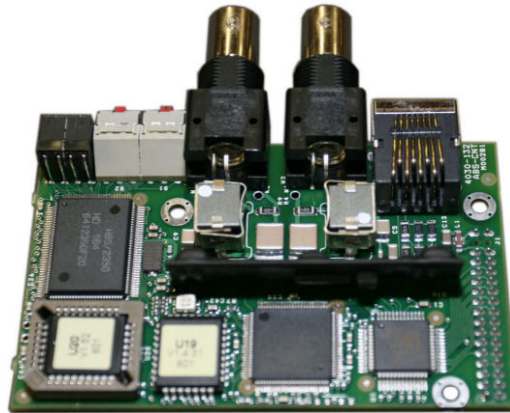
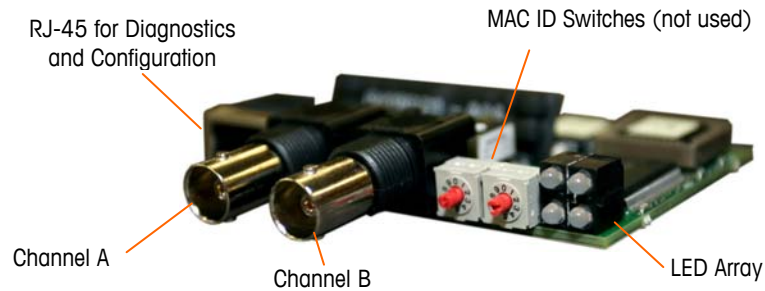
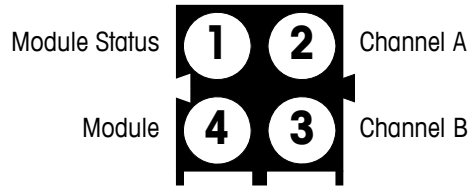
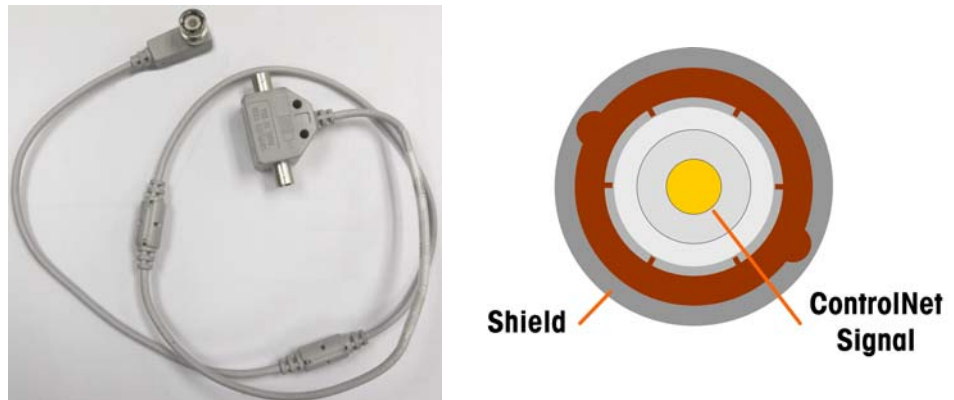

Figure A-81: ControlNet PLC Module
Figure A-82: ControlNet PLC Module Connections and Components
Figure A-83: ControlNet Status Indicator LEDs
Figure A-84: ControlNet Cable and Connector
The ControlNet PLC Module (Figure A-81, Figure A-82) connects to the ControlNet network via one or two coaxial cables (Figure A-84). Channel B is redundant with Channel A, and is not used unless ControlNet detects no signal on Channel A. Note that the module's address is set in software, and the MAC ID switches indicated in Figure A-82 are not used.
- Do not plug an Ethernet cable into the RJ-45 connector shown at left in Figure A-82. Damage to the IND780 Q.iMPACT may result.
Figure A-83 shows the array of status indicator LEDs on the ControlNet card (see also Figure A-82).
Figure A-84 shows an example of a ControlNet cable, and a close-up view of the connector. Note that the connector may be straight or right-angled, as seen here. This cable is not supplied by Mettler Toledo.